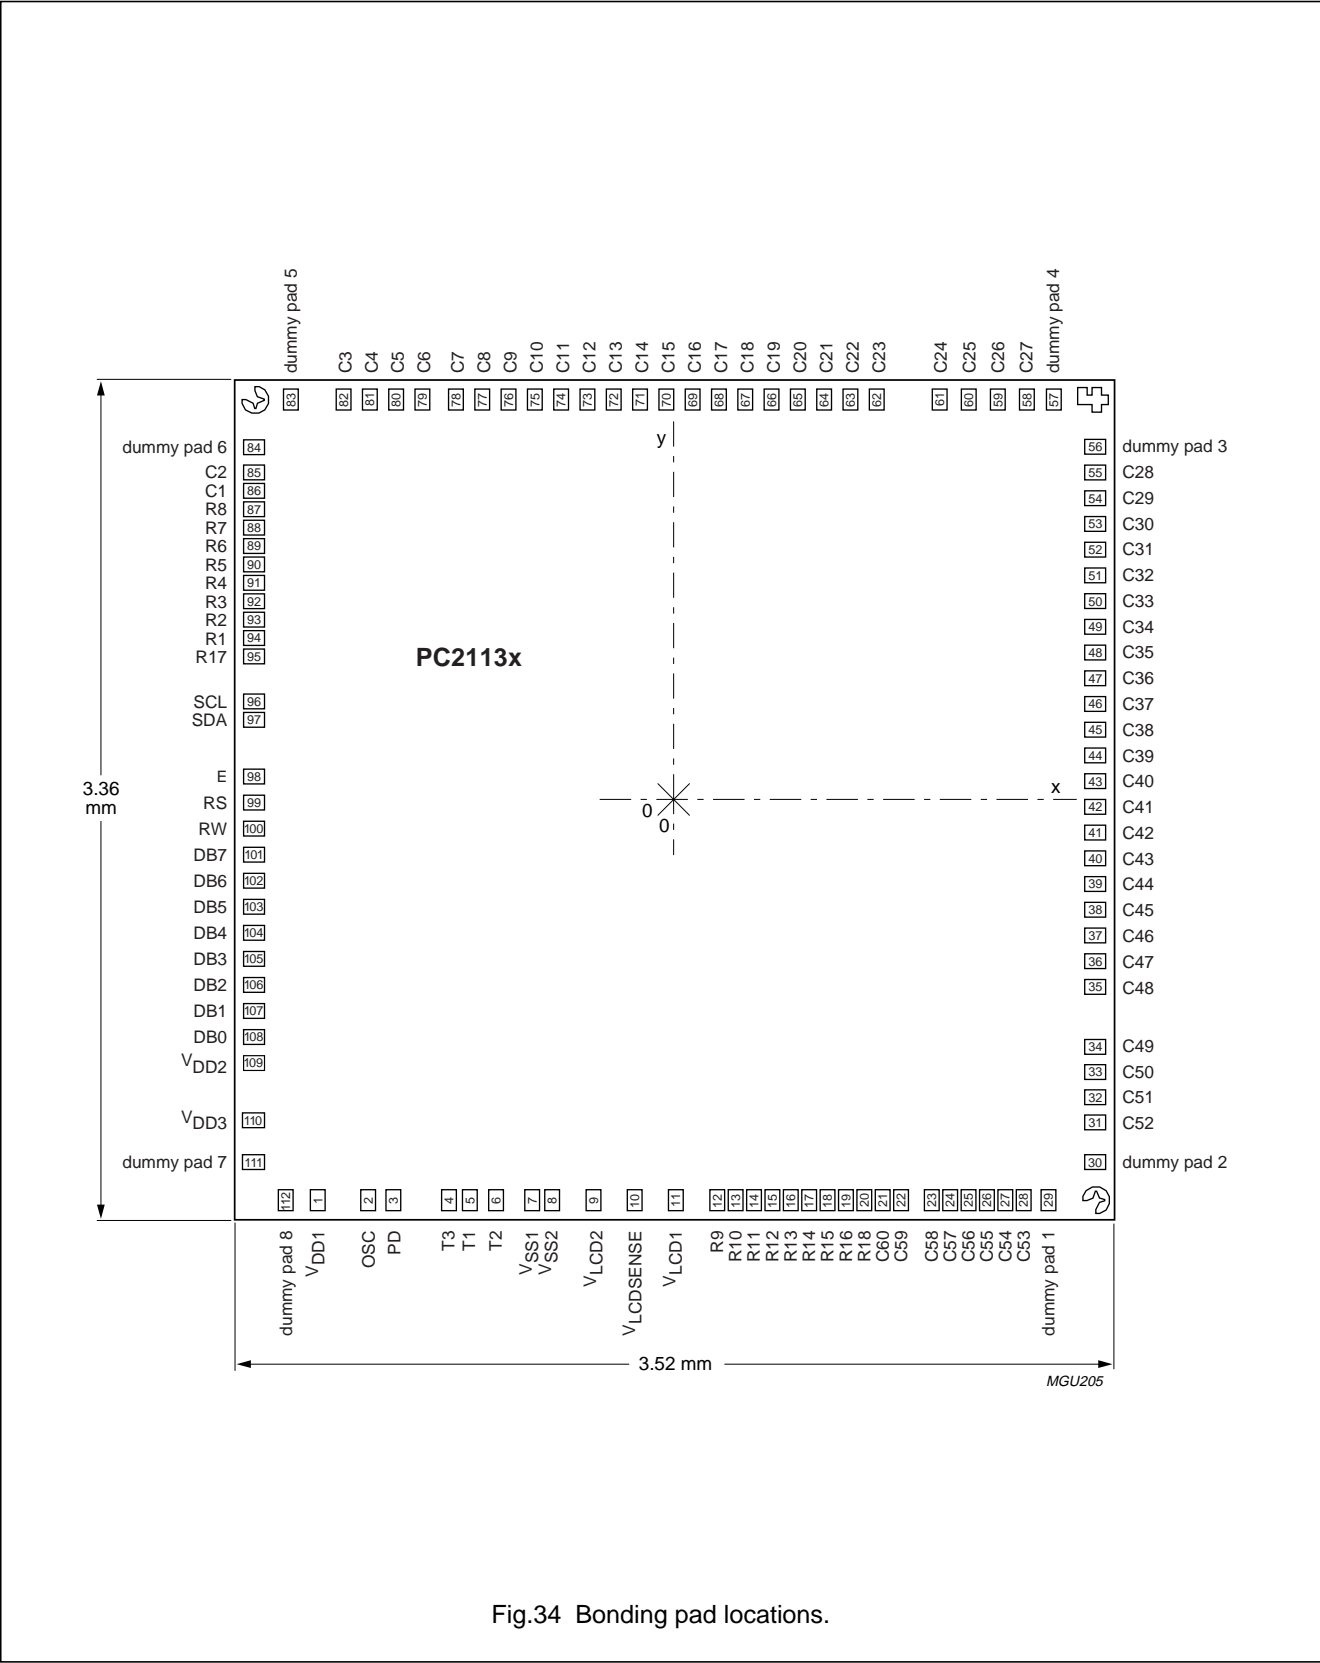

Fig.34 Bonding pad locations.
1. All x and y coordinates are referenced to centre of chip and dimensions are in μm (see Fig.34).